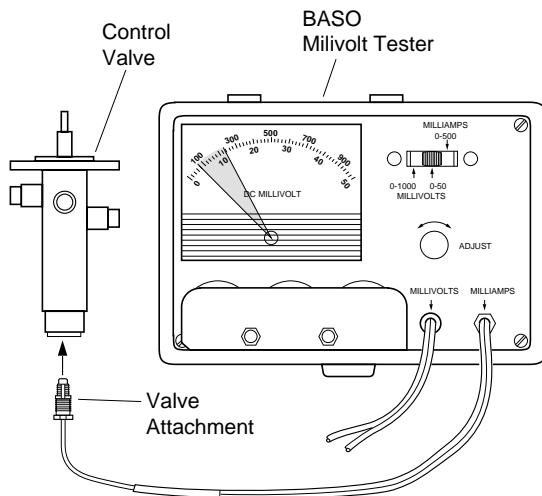

Figure 11. Testing Control Valve With BASO Milivolt Tester
2. Plug the valve attachment connector into the BASO millivolt tester as shown in Figure 11. Set BASO to 0-500 Milliamps.